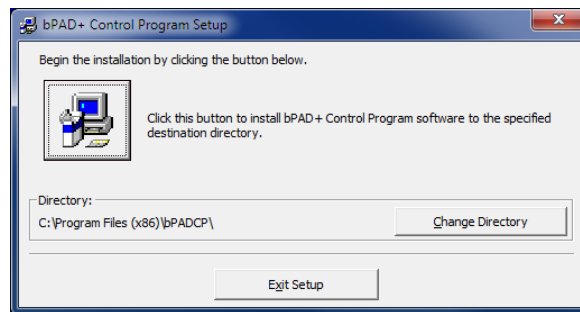

Fig. 4 – Starting the installation
2. In the next window that appears (Fig. 4), click on the computer icon to start the installation. Then follow the instructions on the screen.